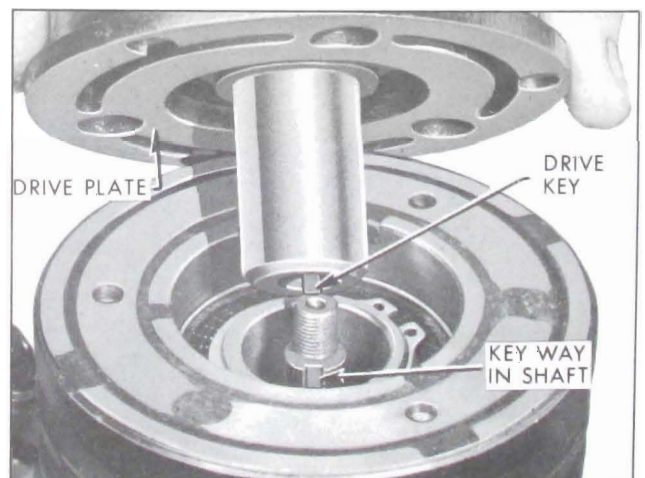

Figure 11-78—Positioning Drive Plate on Shaft
1. Insert square drive key into hub of drive plate so it projects approximately 3/16" out of end of keyway. See Figure 11-78.
2. Line up key in hub with keyway in shaft and position drive plate on shaft. See Figure 11-78.